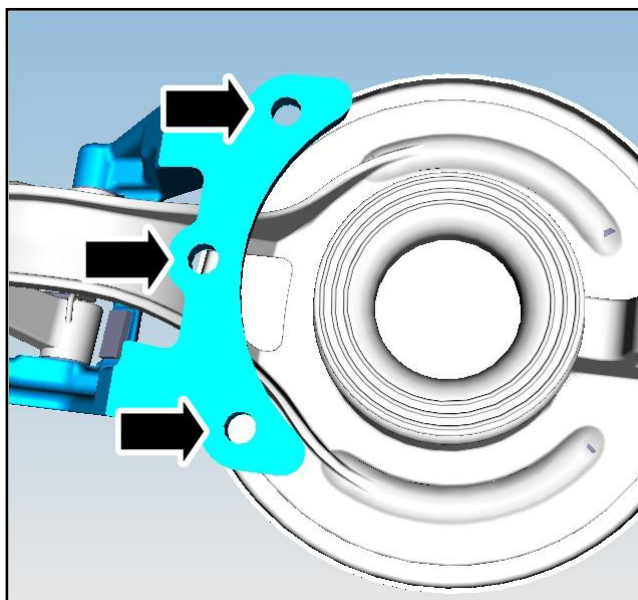

Figure 9
18. Use an 8.5 mm diameter drill to carefully make the three hinge mounting holes larger (refer to Figure 9).